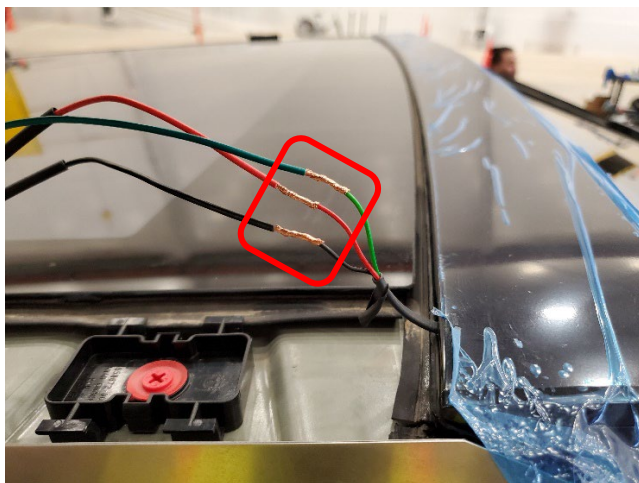

Figure 22
27. Repeat steps 14 through 24 for the remaining off road lightbar jumper wire ends (x3) and the off road lightbar harness wire ends (x3) as required (Figures 22 through 26).